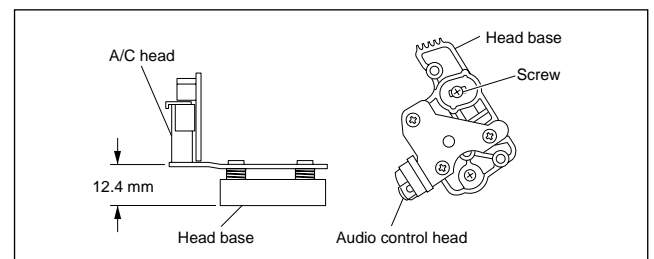

Fig. 2-2-6c
- (1) To make the post-installation adjustment easier, set the temporary level as indicated in Fig.2-2-6c. Also make sure that the screw center (centre) is brought into alignment with the center (centre) position of the slot.